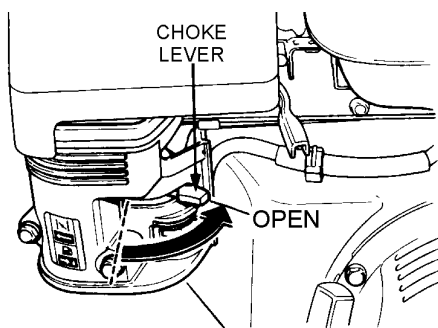

Figure 19. Choke Lever (Open)
- If the choke lever was moved to the **"CLOSED"** position to start the engine gradually move it to the **"OPEN"** position (Figure 19) as the engine warms up. If the engine has not started repeat steps 1 through 6.